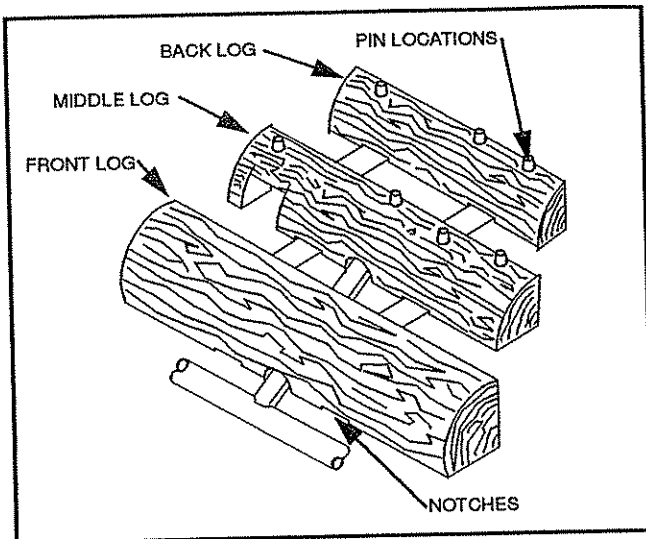

Fig. 41. Bottom log positioning.
8). Ceramic fiber logs are fragile when handled, **carefully** unpack logs. There are eight (8) logs in the log set. Position the three (3) bottom logs on the log support brackets. The longest log is the front log; the mid-length log is the middle log and the shortest log is the rear log. The bottom logs are provided with notches to self locate and rest on the log support brackets. (See Fig. 41.)